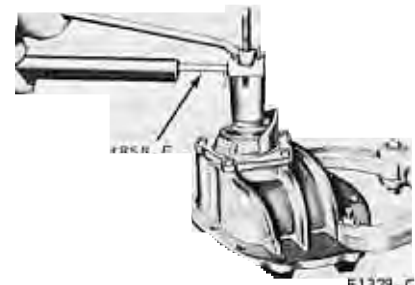

FIG. 50—Installing U-Joint Flange
8. Install the U-joint flange (Fig. 50).